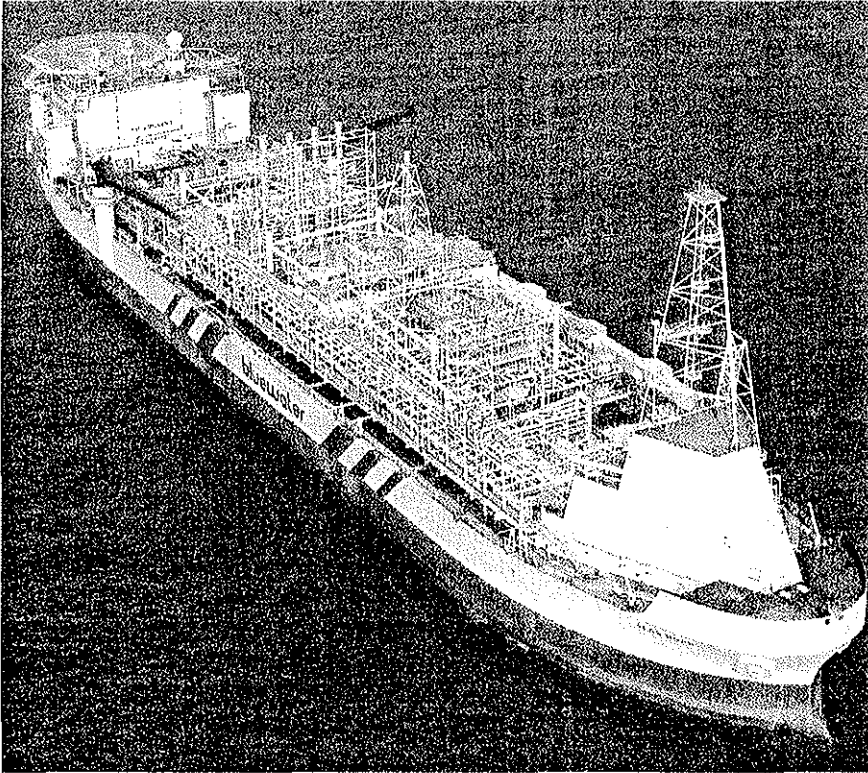

Fig. 9–11. An FPSO (floating production, storage, and off-loading vessel). Courtesy of Veritas DGC.
An orifice meter, known as the *primary element*, consists of an orifice plate, housing, two pressure sensors (one upstream of the orifice plate, one downstream), and a temperature sensor. The readings from the pressure and the temperature sensors go to a *secondary element* to be recorded. At older, smaller leases, the secondary element might have recordings on paper charts (fig. 9–9). In newer, larger operations, the secondary element is a computer that can manipulate the data into flow readings.
**Lease automatic custody transfer (LACT).** At more progressive leases, where oil continuously transfers into a pipeline, LACT units perform the measurements (fig. 9–10). The central focus of the LACT unit is still the PD meter, but a handful of events take place continually and automatically before the oil reaches it:
Offshore, production is metered directly into a pipeline or in some instances, the oil is moved temporarily into the tanks of an *FPSO* (a floating production, storage, and off-loading vessel; fig. 9–11) or an adjacent *FSO* (floating storage and off-loading vessel). In either case, the oil awaits a shuttle tanker to offload the oil and take it to market. Determining the precise size of the compartments on any of these vessels has to be done by certified meters. The oil is measured, usually by turbine meters, as it is transferred to the shuttle tanker.